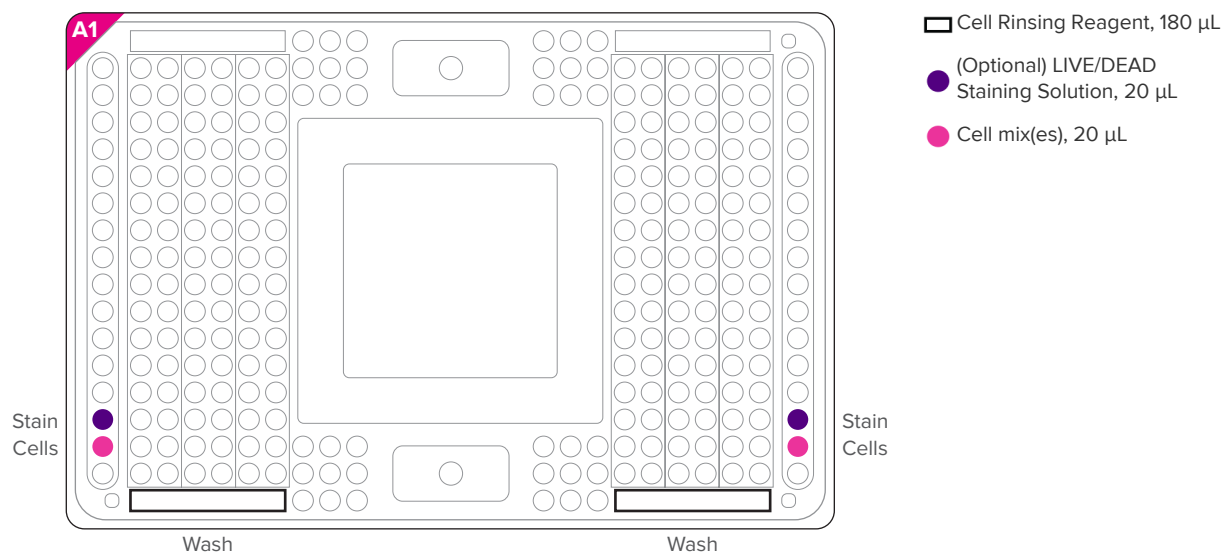

Figure 5. HT IFC loading pipetting map
- 2 Add 180 µL of Cell Rinsing Reagent to each of the 2 bottom wash reservoirs marked with black outlined rectangles (▭) as shown in Figure 5.